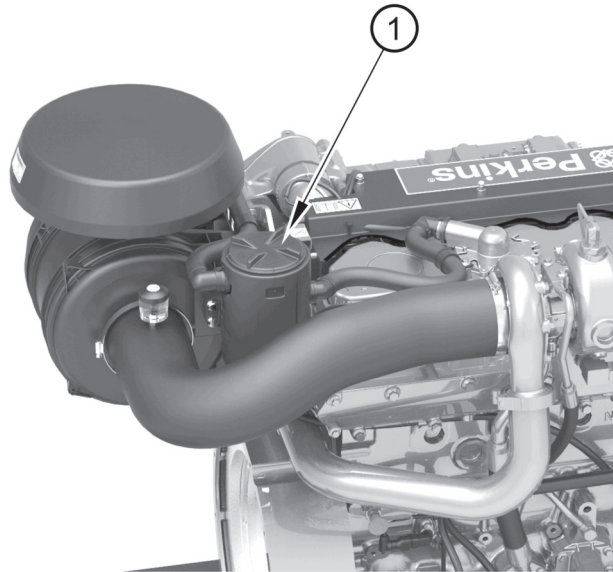

Figure 35
1. Rotate the breather cap (figure 35 item 1) anti-clockwise and pull away from the main body